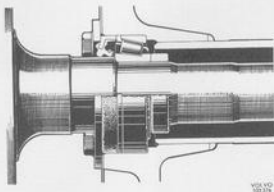

Fig. 4-145. Drive shaft journaling
two taper roller bearings. The crown wheel is attached to the differential carrier by means of bolts. The differential gears themselves in the differential carrier consist of two bevel pinions on a trunnion and two side gears in which drive shafts are carried by means of internal splines. The differential gears are journaled so that they can rotate and permit the drive shafts to rotate at different speeds when the car is being driven round bends. There is a thrust washer under each of the differential gears. The drive pinion is carried in taper roller bearings. The axial location of the drive pinion relative to the crown wheel is adjusted by means of shims under the outer race of the rear pinion bearing. The outer end of each drive shaft is journaled in a taper roller bearing. Bearing clearance is not adjustable but is determined by the construction of the bearing, see Fig. 4-145. There is an oil seal in the outside of the drive shaft bearings.
5. Fill the space between the lips on the new seal with grease. Then place the seal on the drive shaft. Fit the bearing and lock ring. Turn the bearing correctly, see Fig. 4-145.